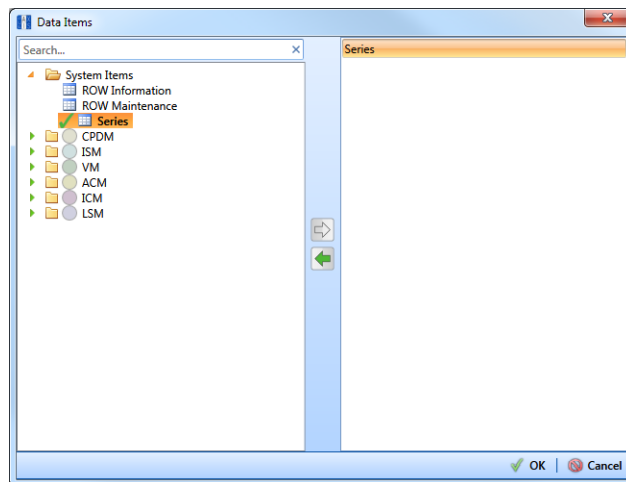

Figure 10-65. Data Items
- 7 Click  **Add Data Item** to open the *Data Items* window and then complete the following steps (Figure 10-65, page 552):